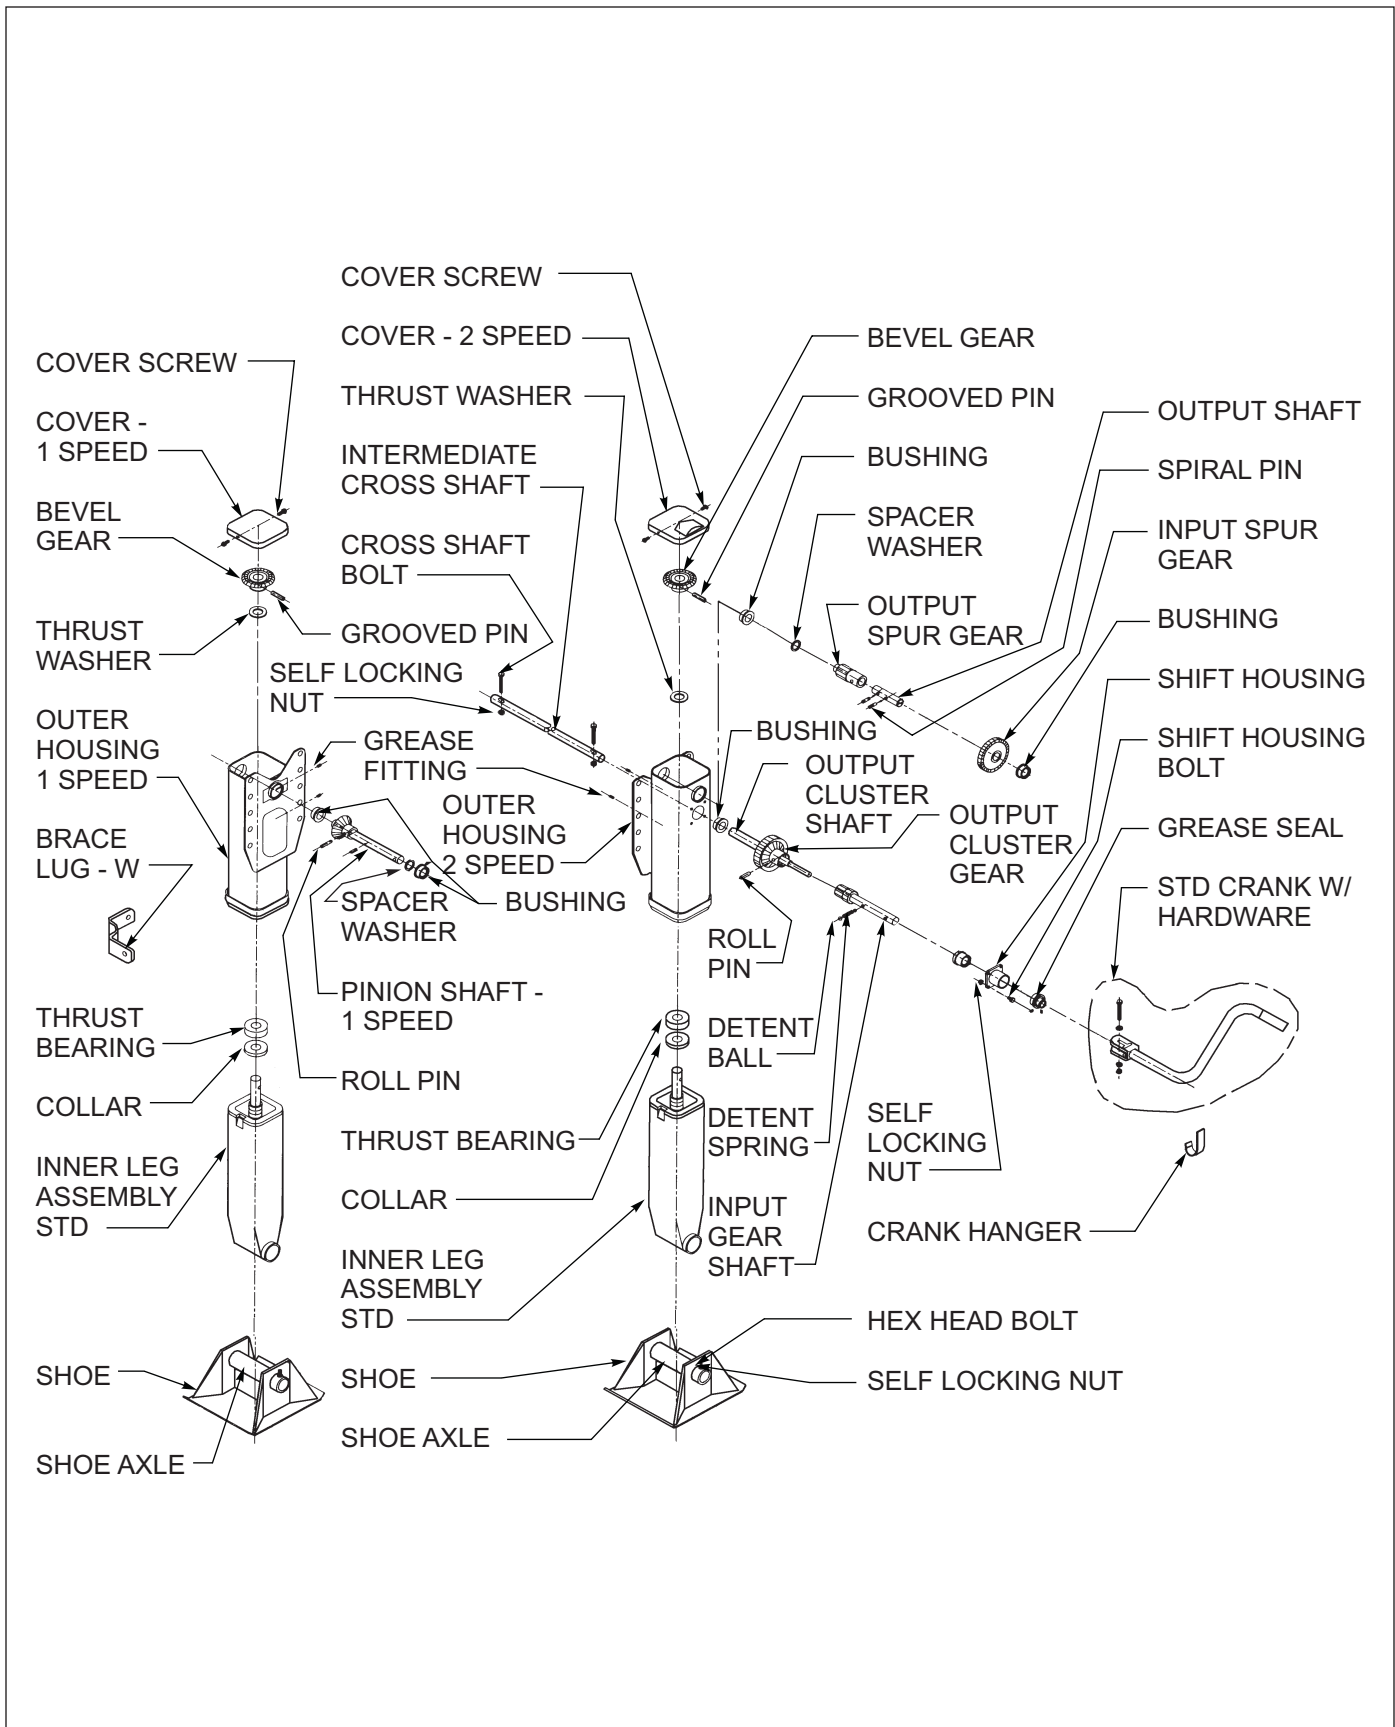

Figure 4-22: Crank Landing Gear Assembly
2. The elevating screw is lubricated by the lower grease fitting located on the upper housing (**See Figure 4-22**) prior to lubrication, extend the landing gear as far as possible. During lubrication, slowly retract the landing gear. The upper grease fitting lubricates the gearing, shafts, and bushings. It is recommended to use a high quality commercial grade lithium EP-2 grease.